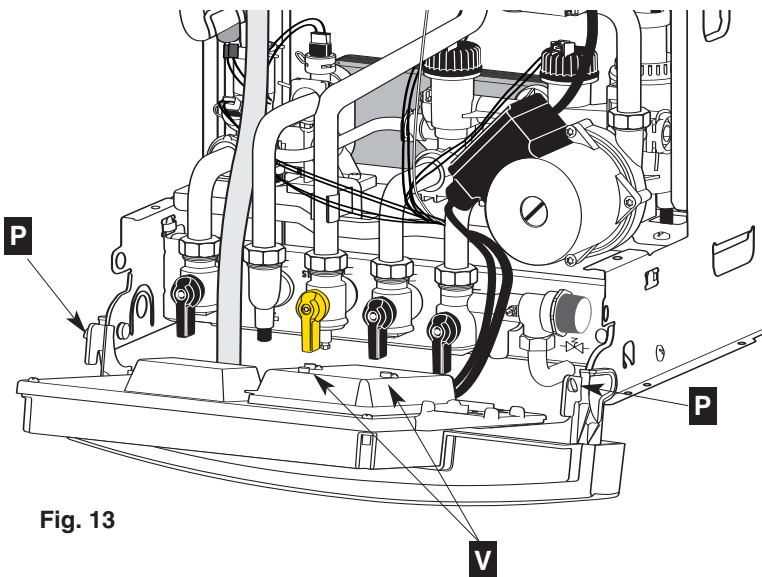
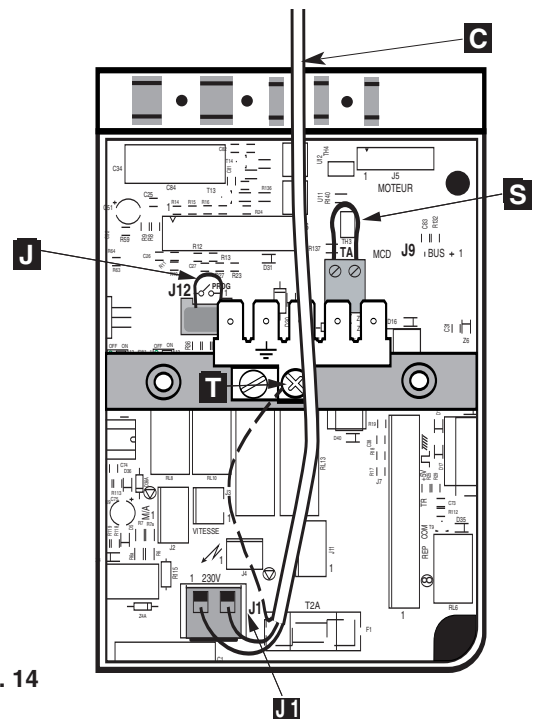

Fig. 13
Fig. 14
- Push in the tabs “**P**” (fig. 13) on either side of the boiler and pivot the electrical box forward to gain access to the valve connections
Hinge down the electrical box to gain access to the electrical connections. Push in the tabs **P** (fig 13) on either side of the boiler and pivot the box forward. Undo the two retaining screws **V**, remove cover and remove cable clamp. **C** (fig 14)
Connect the live and neutral wires to the multipin plug leaving sufficient earth wire to connect to the earthing point **T** fig 14 .
If using a room thermostat or other external control, they can be connected in place of the link **S** on the multipin Plug (see fig. 14).
Connect multipin plug into the socket on the printed circuit board. Secure the cable using the cable clamp and replace the cover. NB The room thermostat options setting can be made before replacing the electrical box cover (1 fig.14).